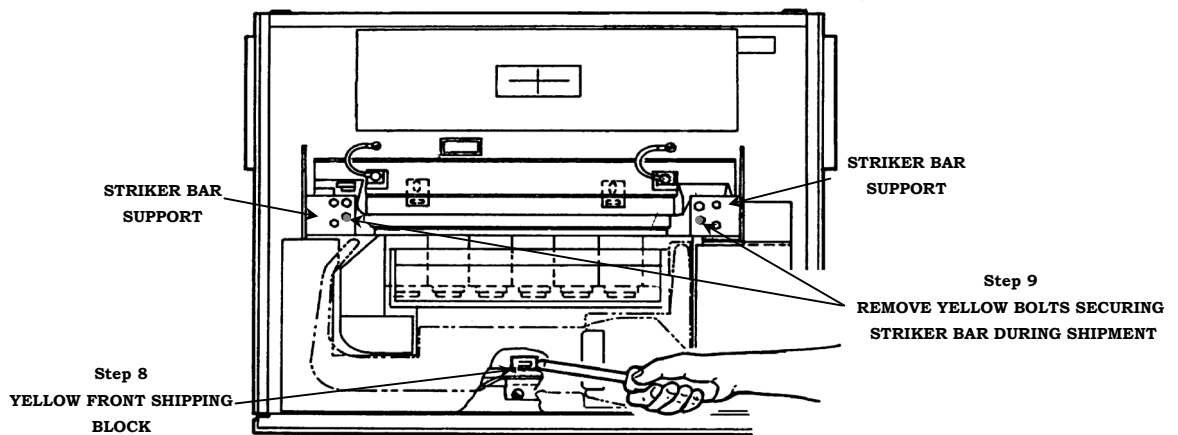

**Figure 2-7 (Top View)
8. Remove the yellow front shipping block. A screwdriver can be used to slide the block free. See Figure 2-7.
9. Remove the two yellow striker bar support bolts. See Figure 2-7.